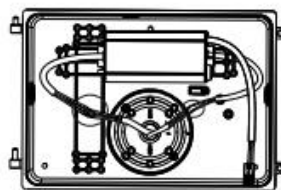

Fig. 1-4
4. Make wiring connections per "Electrical Connections" section and make sure the good wire protection.(Fig. 1-4)